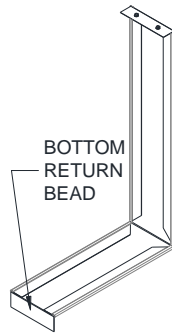

Figure 9.5 - Hood Splice
3. If there is a hood support provided, the hood sections do **not** overlap at the hood support. They should butt against each other and a hood splice cover is provided to cover the joint, see **Figure 9.5**.